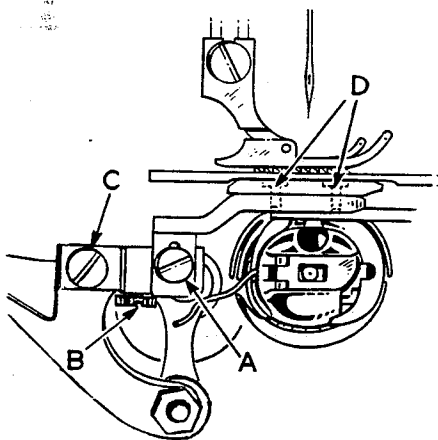

Fig. 17
The feed dog holder attaching screw (A, Fig. 17) should be loosened slightly, and regulating screw (B) should be turned either clockwise to raise the feed dog or counterclockwise to lower it. Make sure that the bottom of the shank of the feed dog holder rests against the head of regulating screw.
2. Check to see that the feed dog is set at its proper height as described in "Feed Dog Height" (Fig. 17).